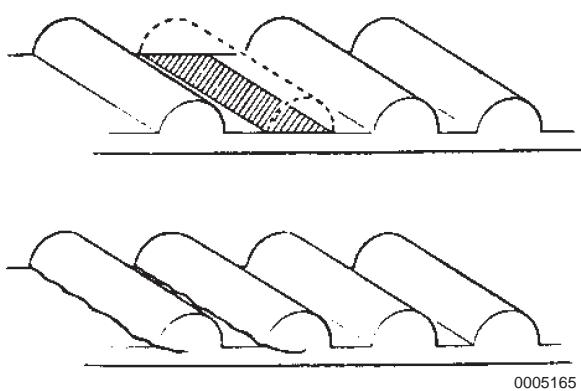

Figure 5-167
- If the belt teeth are cracked or damaged, check for a locked camshaft (**Figure 5-167**).